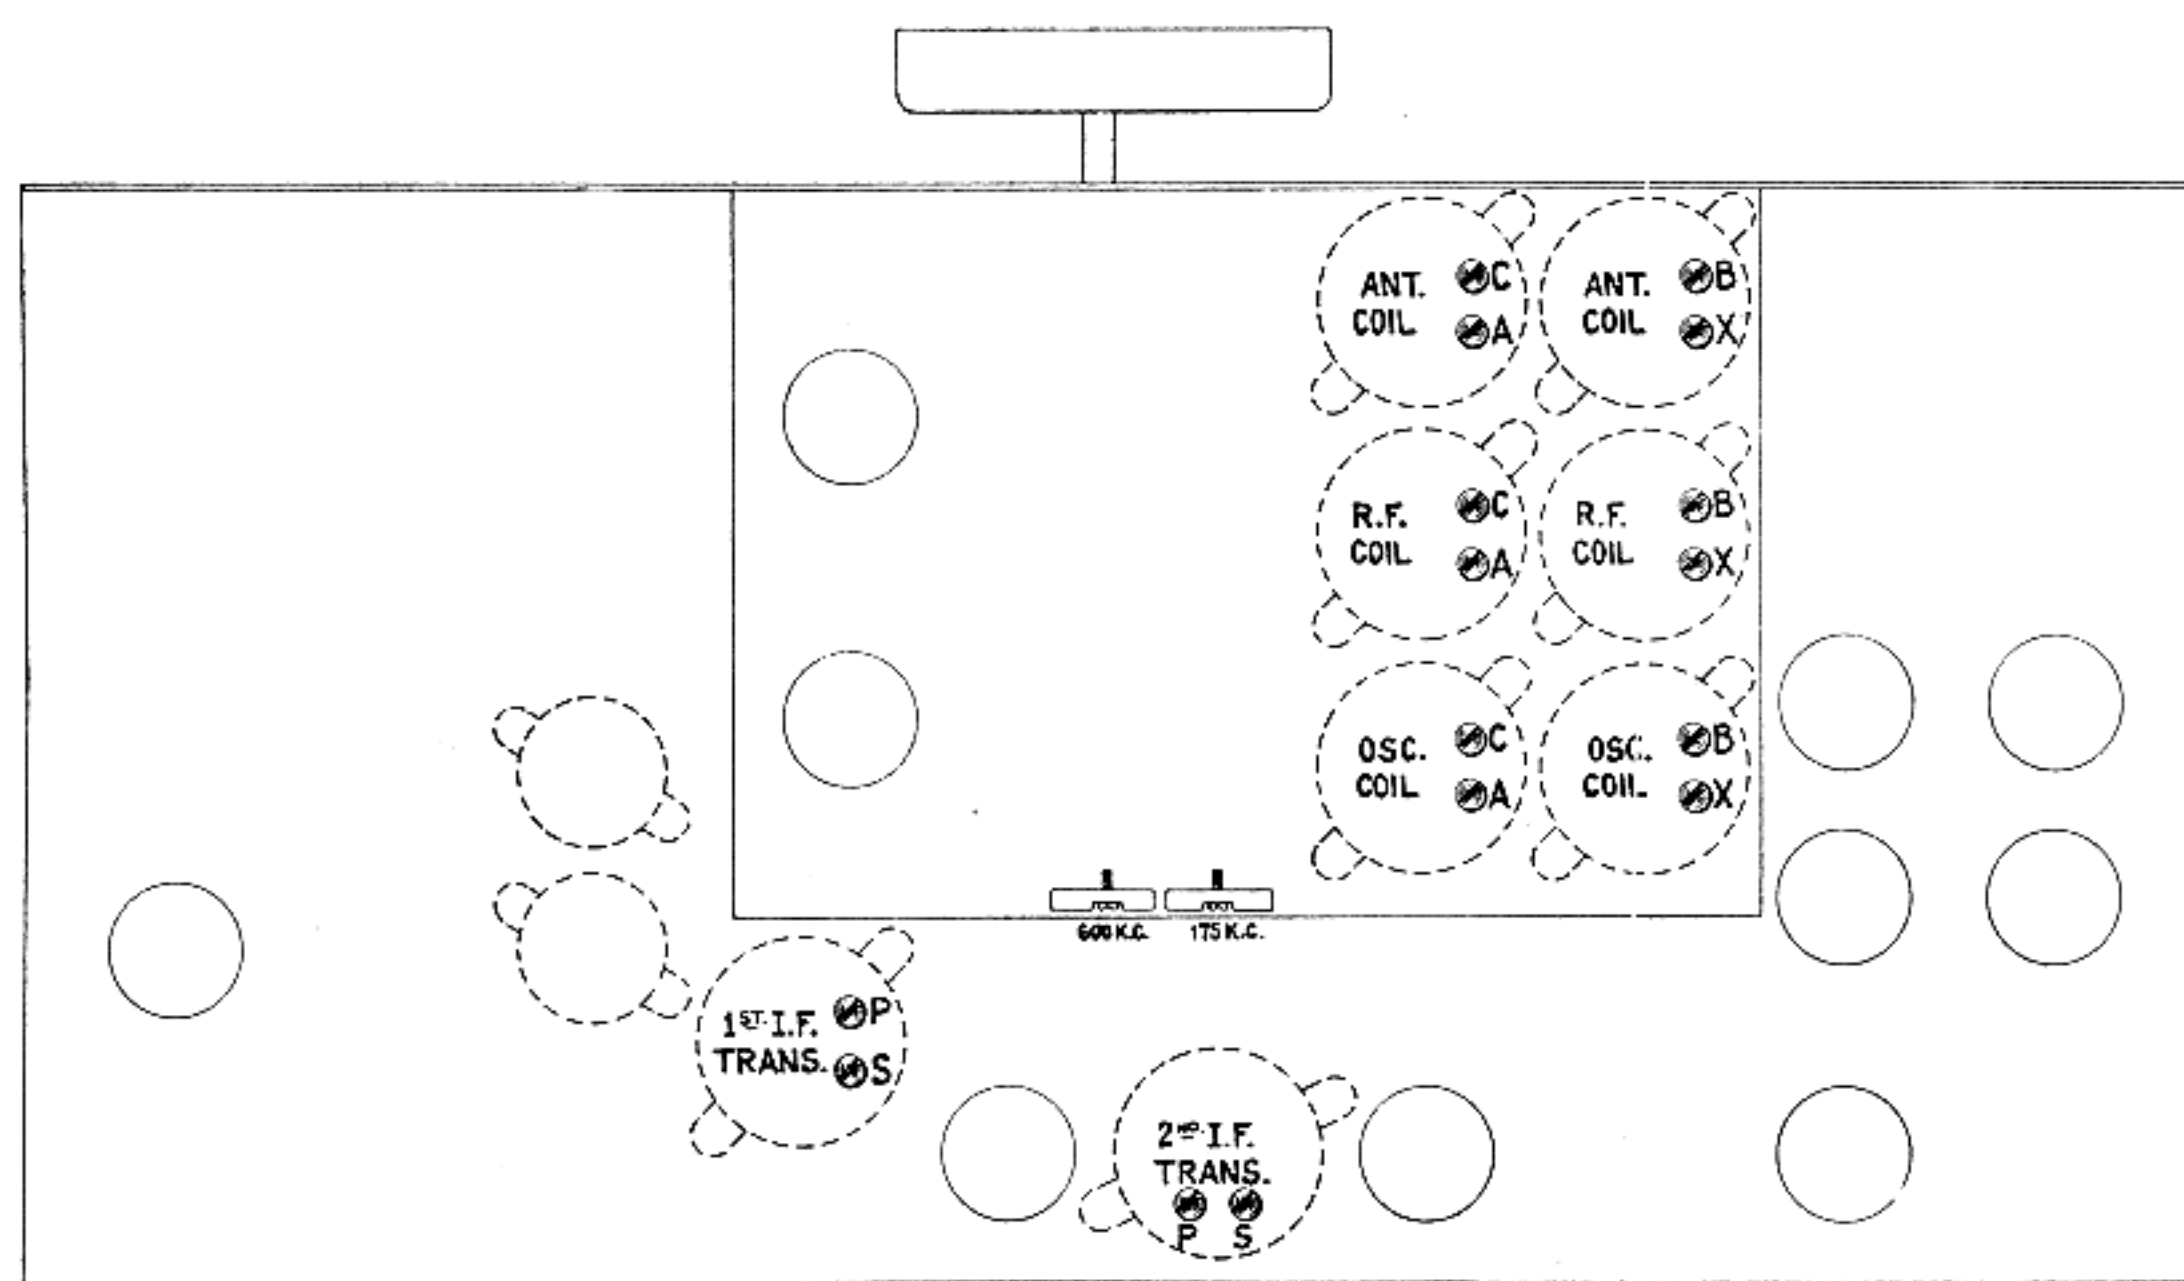

Figure 7—Location of Trimmer Capacitors
- (c) Refer to Figure 7. Adjust each trimmer of the I. F. transformers until a maximum output is obtained. Go over the adjustments a second time.
Figure 7 shows the location of the trimmers for each band. Care must be exercised to only adjust the trimmers in the band under test.
bration and adjust the series trimmer marked 175 KC on Figure 7, for maximum output, at the same time rocking the variable tuning capacitor. Then readjust at 410 KC as described in (a).
- (b) Shift the external oscillator to 600 KC. Tune in the 600 KC signal irrespective of scale calibration and adjust the series trimmer, marked 600 KC on Figure 7, for maximum output, at the same time rocking the variable tuning capacitor. Then readjust at 1720 KC as described in (a).